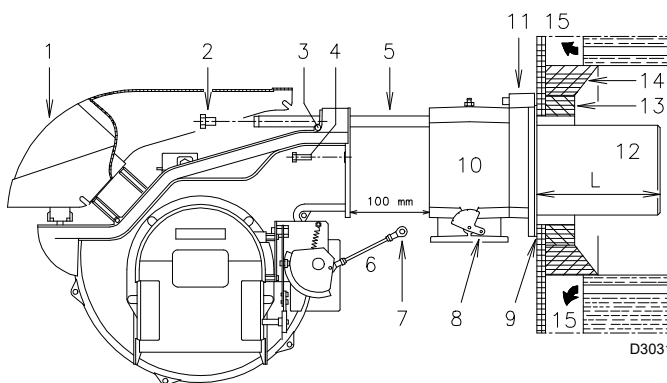

Fig. 12
For boilers with a water-cooled front piece, a refractory lining 13)-14)(Fig. 12) is not necessary, unless expressly requested by the boiler manufacturer.
- Separate the combustion head from the rest of the burner (Fig. 12):